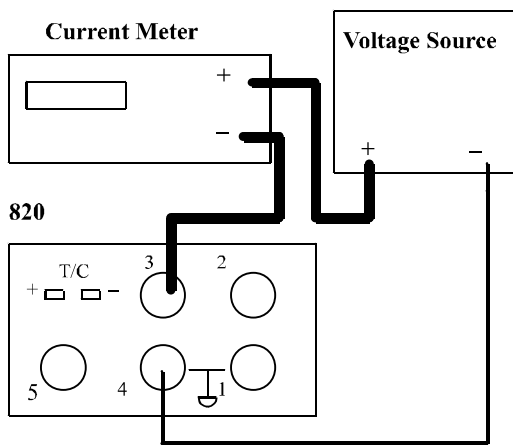

FIGURE 3
3. 2 Wire Configuration: Connect terminals 3 and 4 from the 820 in series with a Voltage Source (Set to 12V) and a Current Meter (See figure 3).